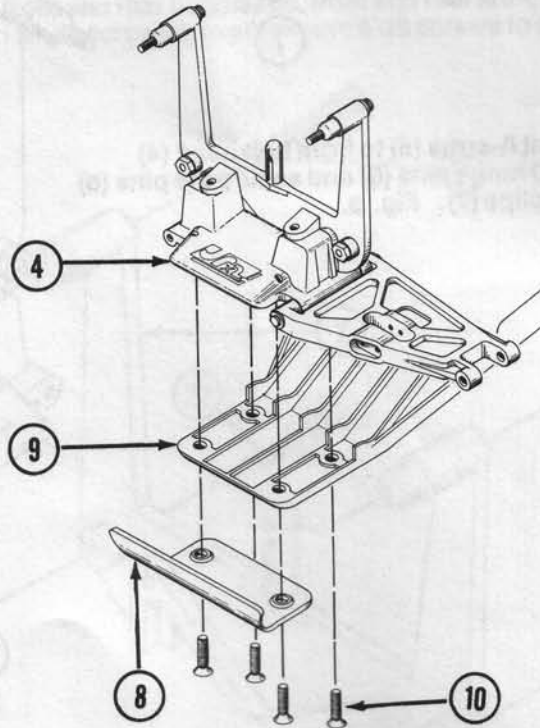

FIG. 5
6. Secure front bulkhead (4) assembly and front bumper (8) to front of chassis (9) using four 8-32 x 1/2" aluminum flathead screws (10) as shown. Fig. 5.